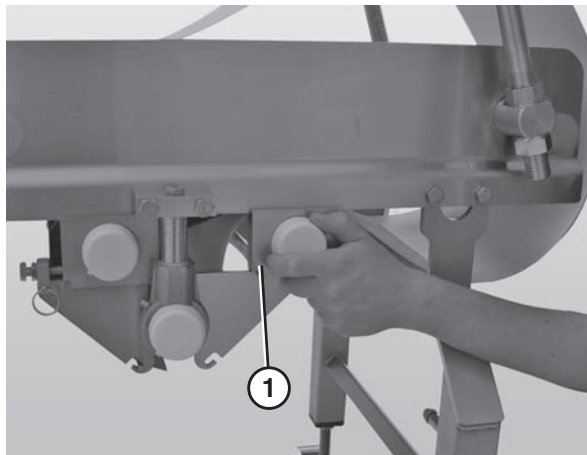

Figure 59
4. Slide the tension spindle assembly (Figure 59, item 1) out of the housing.